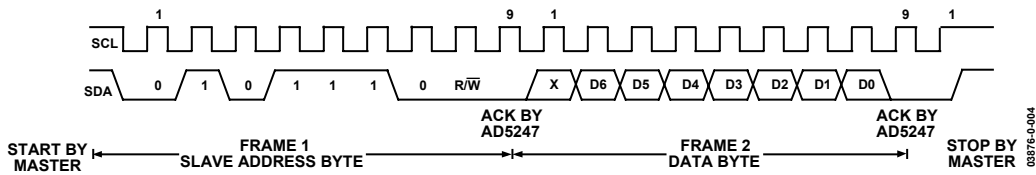
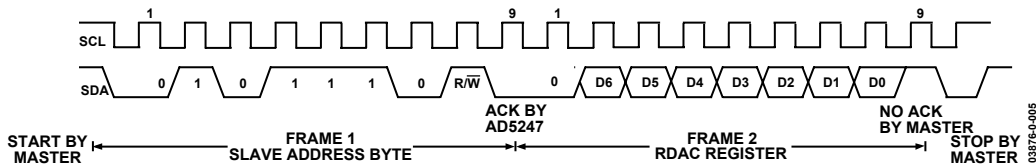

Figure 32. Writing to the RDAC Register
Figure 33. Reading from the RDAC Register
1. The master initiates data transfer by establishing a START condition, which is when a high-to-low transition on the SDA line occurs while SCL is high (see Figure 32). The following byte is the slave address byte, which consists of the 7-bit slave address followed by an R/W bit (this bit determines whether data will be read from or written to the slave device).
3. In read mode, after acknowledgement of the slave address byte, data is received over the serial bus in sequences of nine clock pulses (a slight difference from write mode, where eight data bits are followed by an acknowledge bit). Similarly, the transitions on the SDA line must occur during the low period of SCL and remain stable during the high period of SCL (see Figure 33).
4. When all data bits have been read or written, a STOP condition is established by the master. A STOP condition is defined as a low-to-high transition on the SDA line while SCL is high. In write mode, the master will pull the SDA line high during the tenth clock pulse to establish a STOP condition (see Figure 32). In read mode, the master will issue a No Acknowledge for the ninth clock pulse (i.e., the SDA line remains high). The master will then bring the SDA line low before the tenth clock pulse, which goes high to establish a STOP condition (see Figure 33).